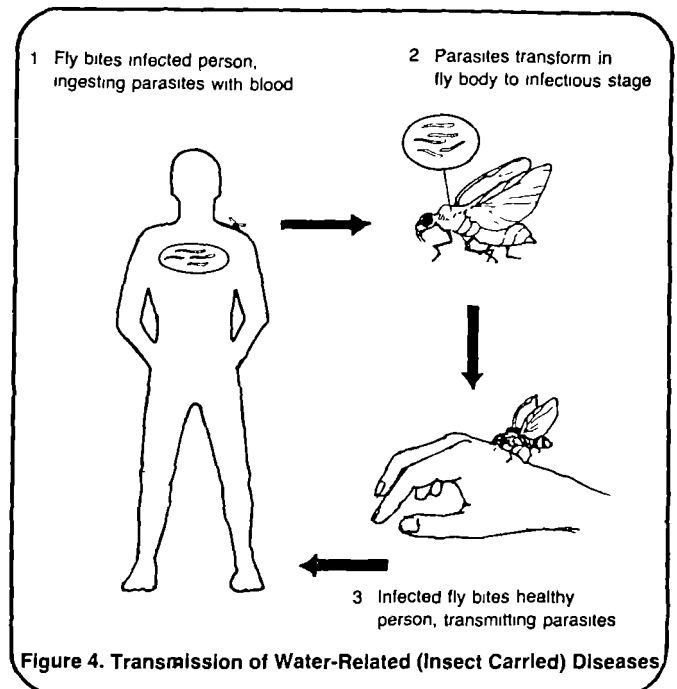

Figure 4. Transmission of Water-Related (Insect Carried) Diseases
- Onchocerciasis (river blindness) which is transmitted by blackflies which breed while attached to rocks and vegetation in fast-flowing rivers and streams. Figure 4 shows how onchocerciasis is transmitted.